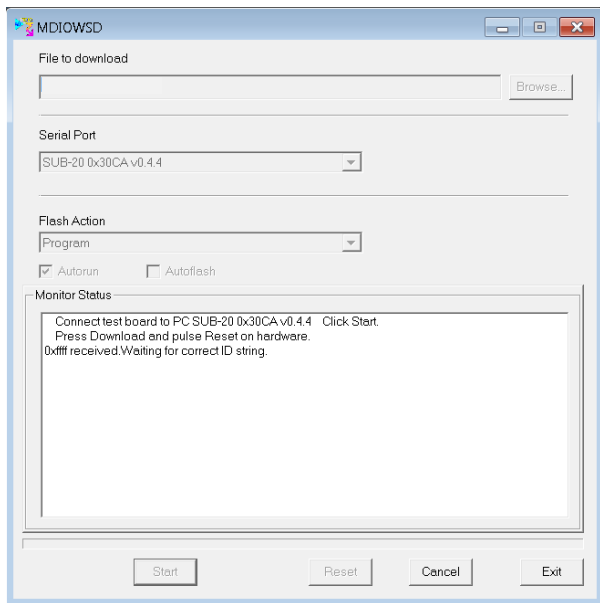

Figure 19. MDIOWSD GUI
5. Connect the USB cable from the PC to the SUB-20 board and run **C:\ADuCM420...\SoftwareTools\MDIOWSD\MDIOWSD.exe**. The GUI window then opens, as shown in Figure 19.
6. Click the **Browse** button (see Figure 19), and navigate to the desired code to download.